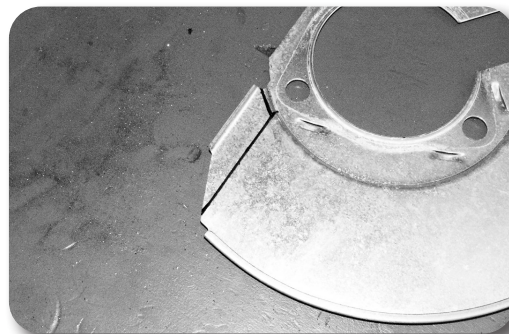

Figure 25
50. The brake dust shield needs to be trimmed. Measure in from the lower vertical edge (opposite the ABS sensor location)  $\frac{3}{4}$ " and make a vertical cut line along the entire flat section **Figure 25**. Cut the mark section off of the brake dust shield.